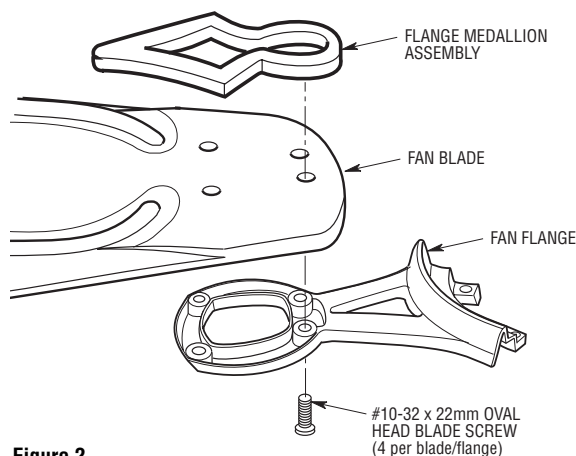

Figure 2
- Position the flange medallion upside down on a soft, clean surface. Place the blade with the decorative side facing down onto the flange medallion. Attach the flange assembly to the blade and flange medallion using the four #10-32 x 22mm oval head screws as shown in Figure 2. Repeat for the four remaining blades.